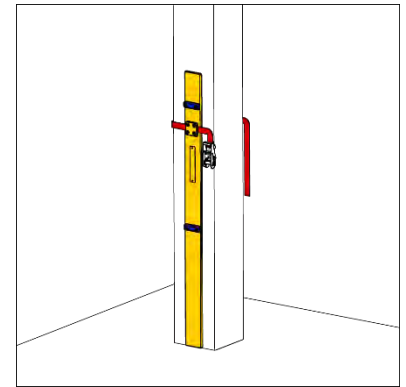

Figure 38
- i) Place the Noose Post against the column (Fig. 38).